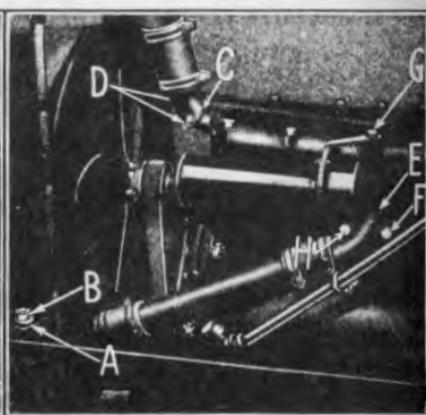

Fig. 104
- (c) Place upper thimble (See "A" Fig. 104) over the two radiator studs and run down castle nuts "B" sufficiently far to permit locking the nuts by inserting cotter pins through radiator studs.